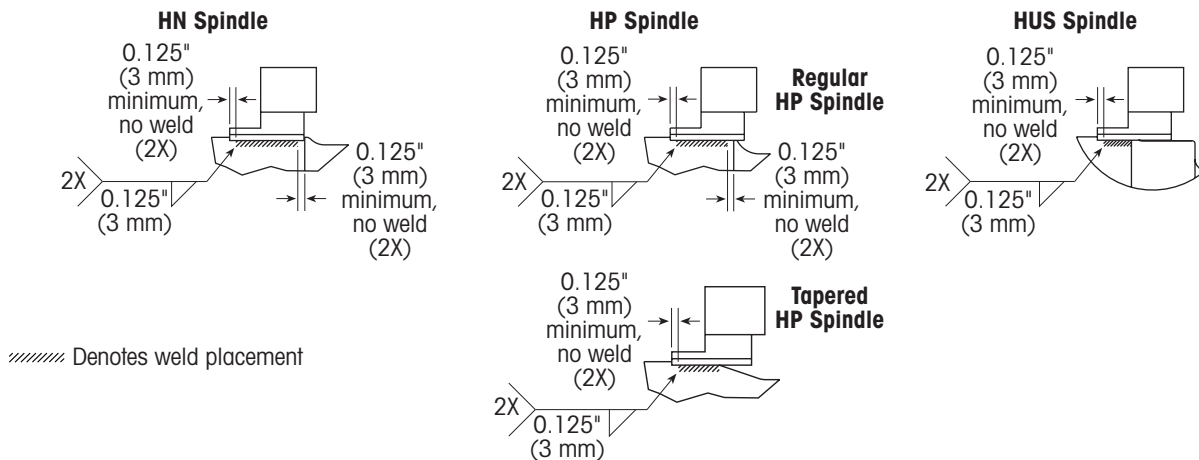

Figure 4: Weld details
- When ABS bracket location and sensor clearance are verified, **weld** the ABS bracket to the axle with a 1/8 inch (3 mm) fillet weld (Figure 4).